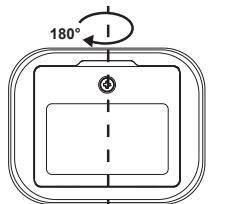

FIG. 2
d. In the same location, rotate the equipment 180°(see the following FIG. 2), then press the **MODE** button, "CAL 2" flashes several times. After the "CAL 2" disappears, the calibration is completed and then the LCD will show the current angle in high-accuracy-display.